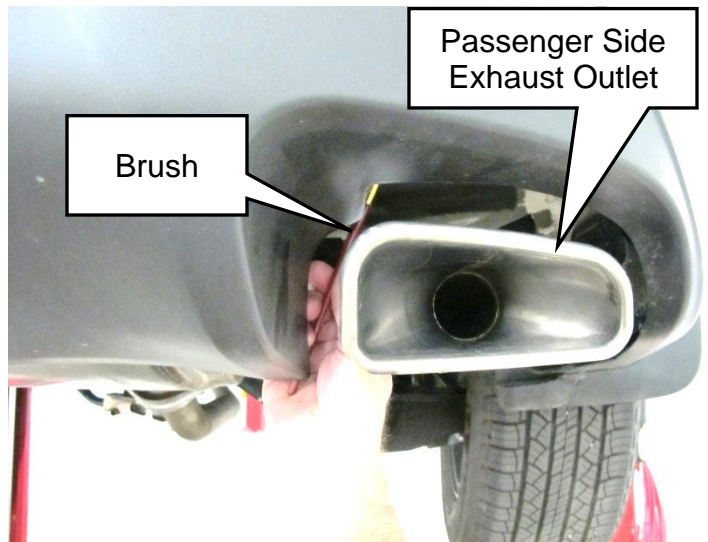

Figure 12
- To gain access to the seam gap with the brush, position the brush on the left side of the right exhaust outlet as shown in Figure 12.